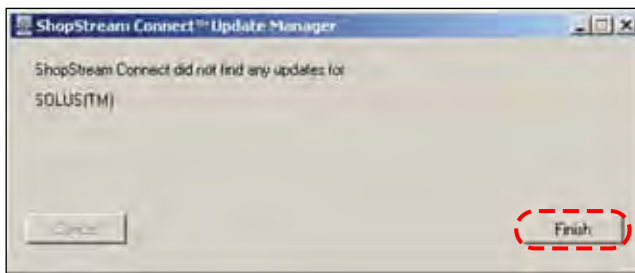

Figure C-12 Sample no updates available screen
- a. If no upgrades are available, an updates not found message displays (Figure C-12). Select **Finish** to close the Update Manager, then skip ahead to Step 9.